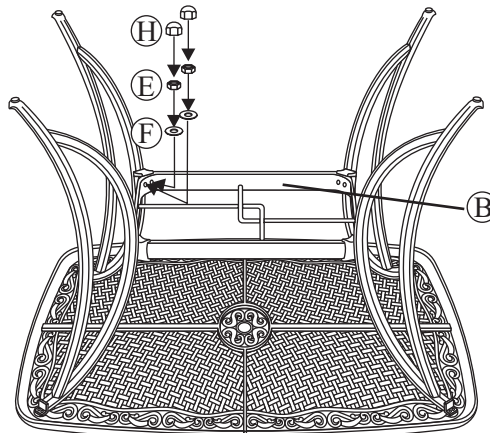

Fig. 2
Step 3: Attach a leg to the leg connector bracket by carefully guiding the bolts already in place on the table legs (each leg has two bolts) through the holes in the leg connector bracket. Add a washer and nut to the end of each bolt as shown in Fig. 2. **Hand tighten only.** Repeat for the other three legs.